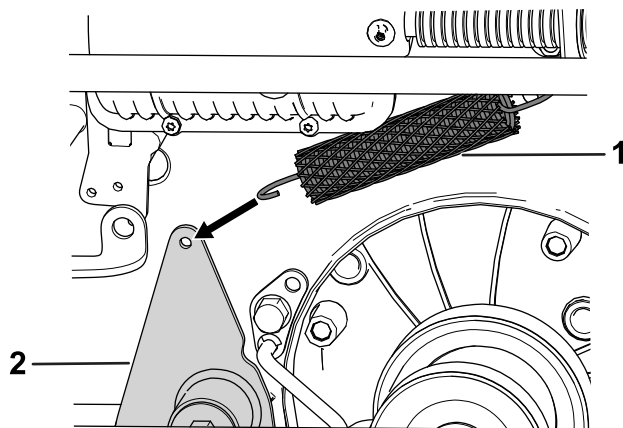

Figure 19
13. Attach the brake-extension arm to the brake arm (Figure 19).